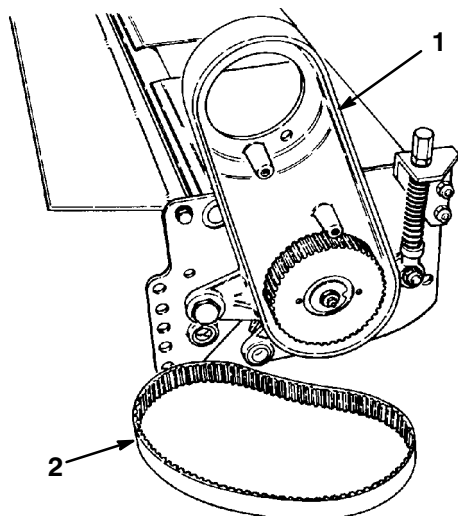

**Figure 29**
2. Remove the shoulder bolts, bushings, and spacers from each end of the unit and remove the bedbar/bedknife assembly (Fig. 29).
3. Remove the inboard locknut from the adjuster pin, the fasteners for the bracket, and the adjusting handle assembly from the sideplate (Fig. 29).
1. Inspect the flange bushings in the mounting holes for the drive housing and bearing housing for wear (Fig. 29). Replace, if necessary.
7. Insert the shoulder bolt through the Belleville washer and rear housing mounting hole. Slide the bolt through the sideplate mounting hole (Fig. 29). Install the cone nut locknut onto the bolt. Tighten the cone nut to 45-55 ft.-lb.